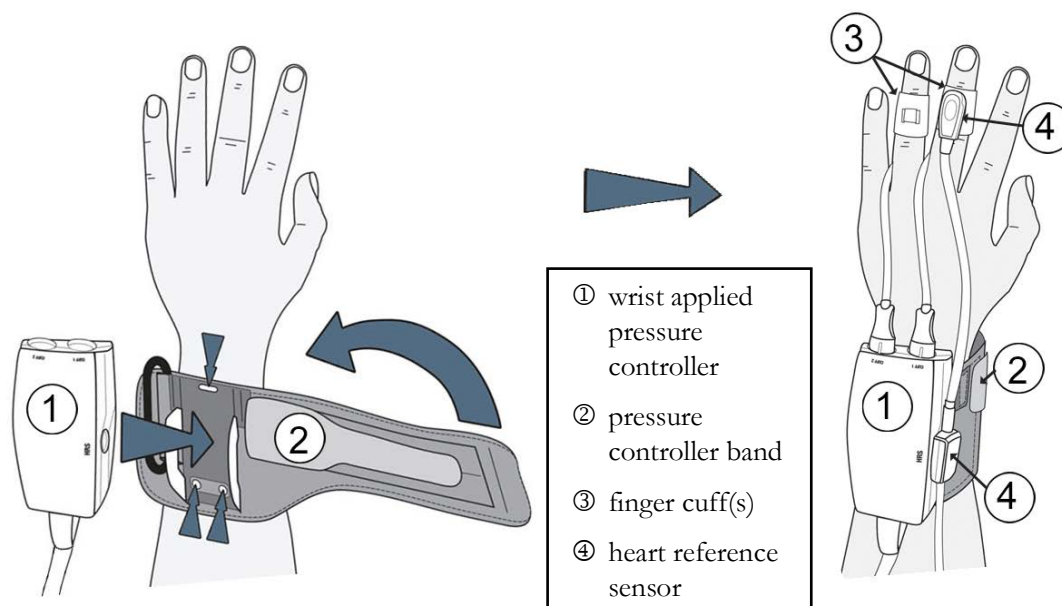

Figure 11-3 Wrist applied pressure controller application
testing to support the safety and performance of the device for its intended use when used in accordance with the established Instructions for Use. The pressure controller is worn on the patient's wrist and connects to the HemoSphere ClearSight module, HRS and finger cuff(s). See figure 11-3.
- 1 Wrap the pressure controller band around the patient's wrist. The non dominant hand is preferred for monitoring in awake patients. (figure 11-3, left)